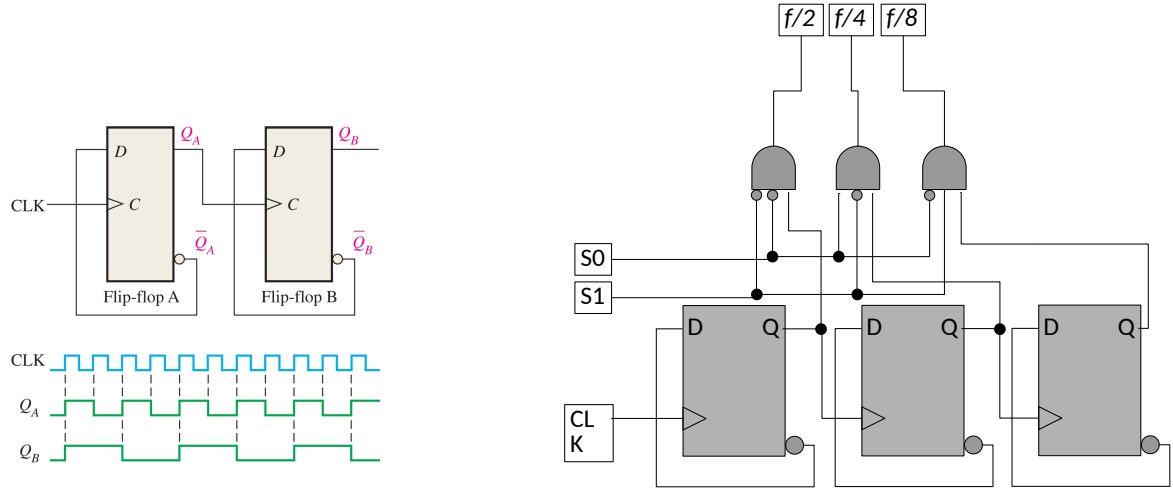

Figure 7: (Left) Two D flip-flops forming a frequency divider. (Right) Solution to Exercise 1 (a).
- Consider Fig. 7, in which a divide-by-four frequency divider is depicted with D flip-flops and a CLK signal. (a) Elaborate on this circuit to create a circuit that can divide the clock frequency by 2, 4, or 8. Show the flip-flops explicitly. (b) Develop a symbol for the 2-4-8-16 divider, with CLK signal input and four outputs (one each for $f/2$, $f/4$, $f/8$, and $f/16$, where f is the clock frequency). (c) Connect the symbol for the new part to a symbolic 4-to-1 multiplexer with the appropriate number of data select lines to form a clock division system. (d) Show with a timing diagram the output if the user changes the data select lines at least once. For parts (b)-(d), it is only necessary to show symbols rather than individual flip-flops.
- (a) See Fig. 7 (right). The data-select lines enable the frequency outputs. These outputs could be fed into a final OR gate to limit the outputs to one line.